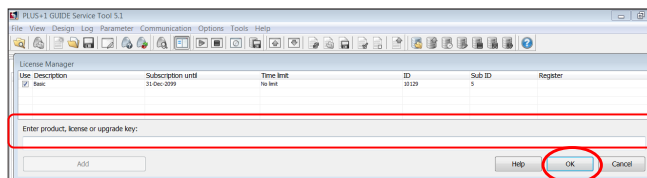

Figure 15. Entering License Key
11. Input the license key obtained from Multiquip (Figure 15) and click "OK".